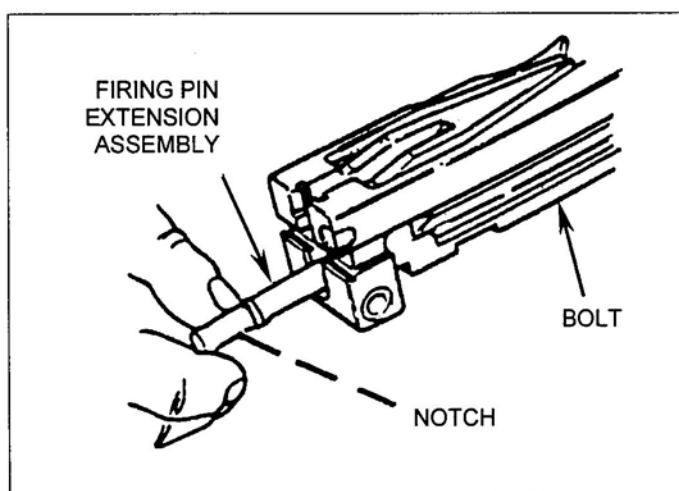

Figure 31. Installation of the firing pin extension assembly.
- (2) Insert firing pin extension assembly into bolt with notch of firing pin extension assembly down (Figure 31).